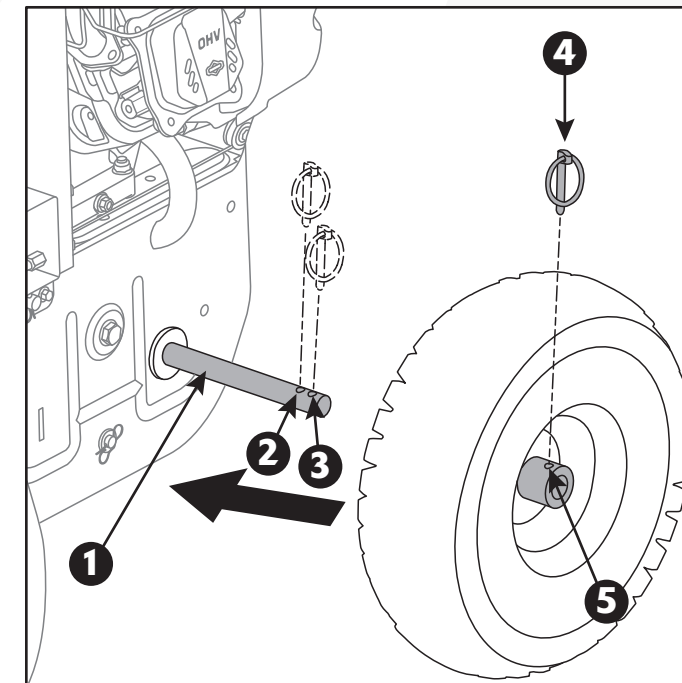

Fig. 2A
1. Remove the axle pin that secures the wheel then slide and remove the wheel from the wheel axle. (Fig. 2A)
NOTE: The left wheel axle has an inner and outer hole that the axle pin can be inserted into (Fig. 2A). Align the wheel hole with the inner axle hole and secure the wheel with the axle pin to prevent the snow blower from freely turning. This will provide the most traction. Placing the pin in the outer axle hole with the wheel shaft placed against the snow blower body will allow the unit to turn freely.